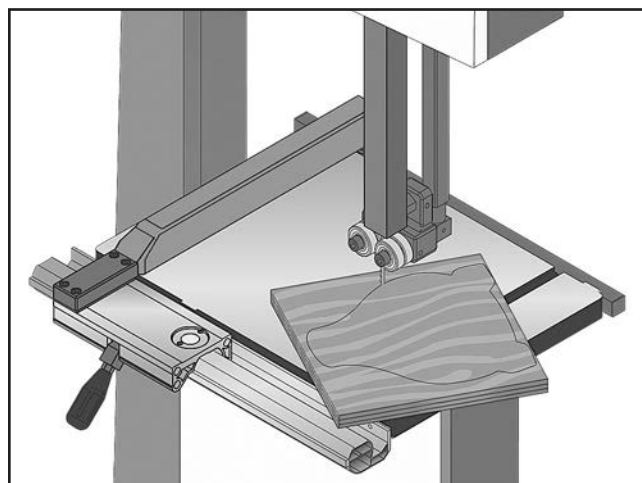

Figure 55. Example of a stacked cut setup.
5. Cut stack of pieces along your layout line as though you were cutting a single piece (see **Figure 55** for an example of a stacked cut setup).